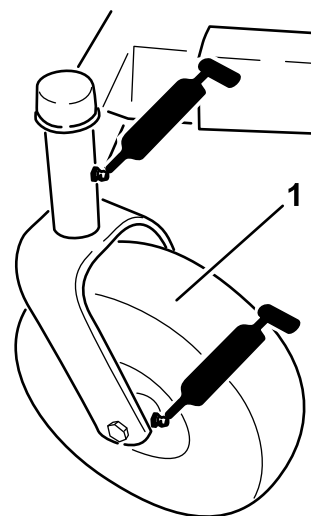
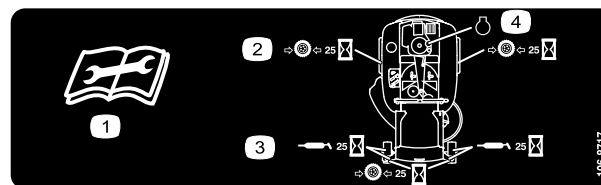

Figure 23
Figure 24
3. Clean the grease fittings (Figure 23 and Figure 24) with a rag. Make sure to scrape any paint off of the front of the fitting(s).
4. Connect a grease gun to each fitting (Figure 23 and Figure 24). Pump grease into the fittings until grease begins to ooze out of the bearings.